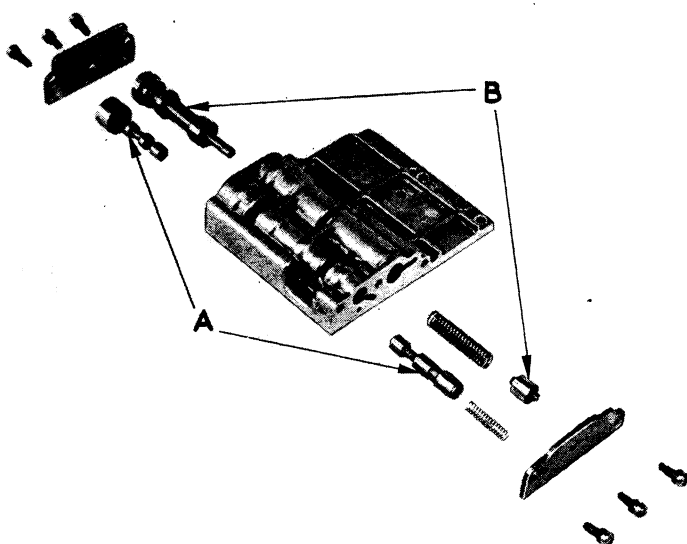

Fig. 4-76. Upper valve body
15. Remove the six screws and end plate from the upper valve body, see Fig. 4-76. Remove the